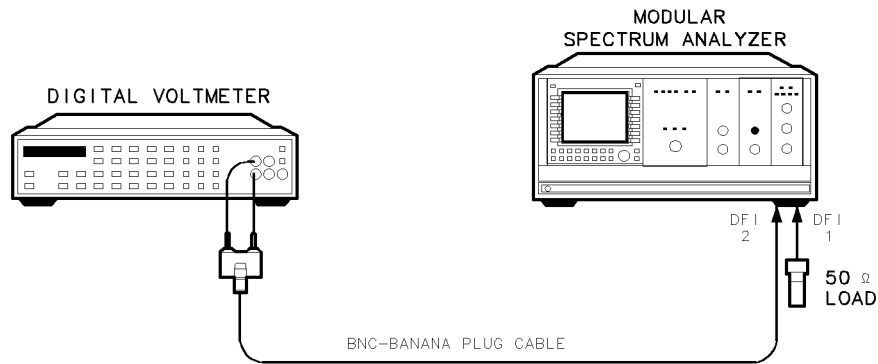

Figure 3-3. Discrete Fault Indicator Test Setup
1. Connect equipment as shown in Figure 3-3.